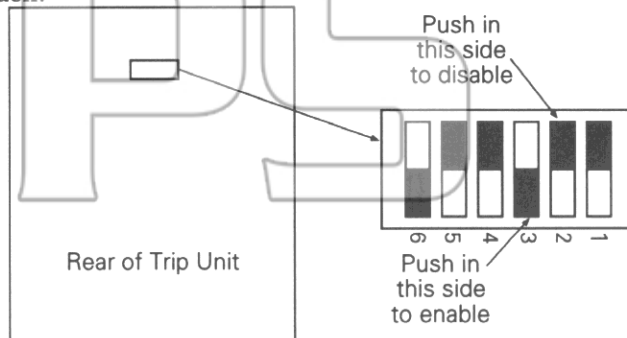

Figure 4. Accessory switch on rear of Trip Unit, showing factory settings (solid part indicates that switch is pushed in on that side).
The Shunt Trip accessory can be configured to activate the Bell Alarm–Alarm Only or Bell Alarm with Lockout accessories if a Shunt trip occurs. The configuration can be changed by removing the Trip Unit from the breaker, setting the DIP switches on the rear of the Trip Unit, and reinstalling the Trip Unit. Figure 4 illustrates the Trip Unit read DIP switches and their functions. Table 2 lists the switch functions and the factory settings for each.
4. Refer to Figure 4 and Table 2 to determine the switches to be changed.